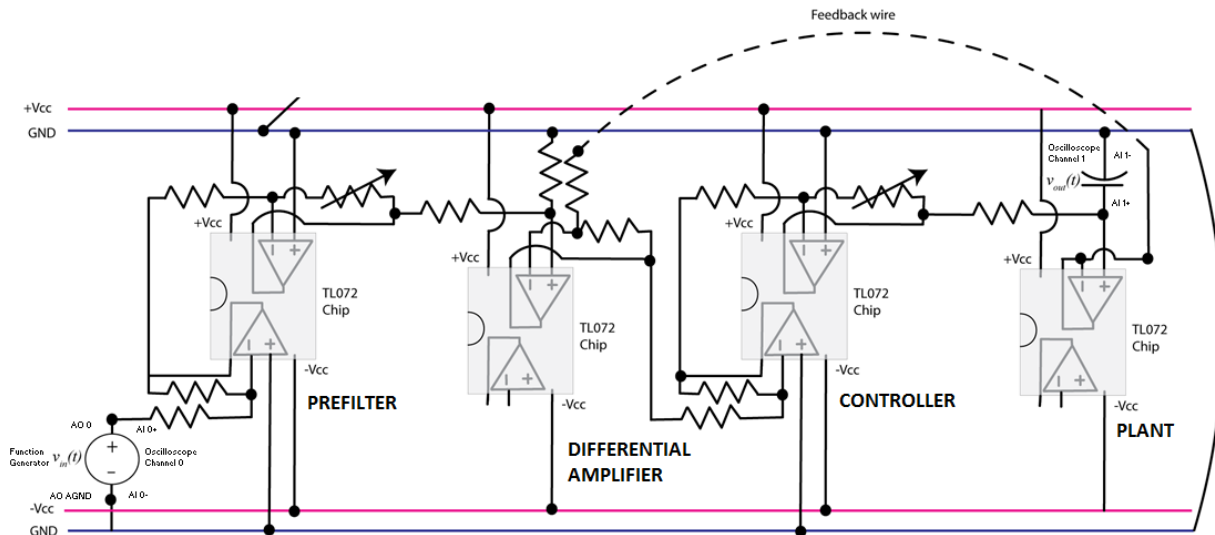

Figure 13: Closed loop system schematic
1. In this part, you will add the feedback to the system by modifying the circuit to look like Figure 13. Disconnect the 1 kΩ resistor at pin 6 on the differential amplifier from ground. Add a long wire from that resistor to pin 6 on the isolation amplifier (plant).